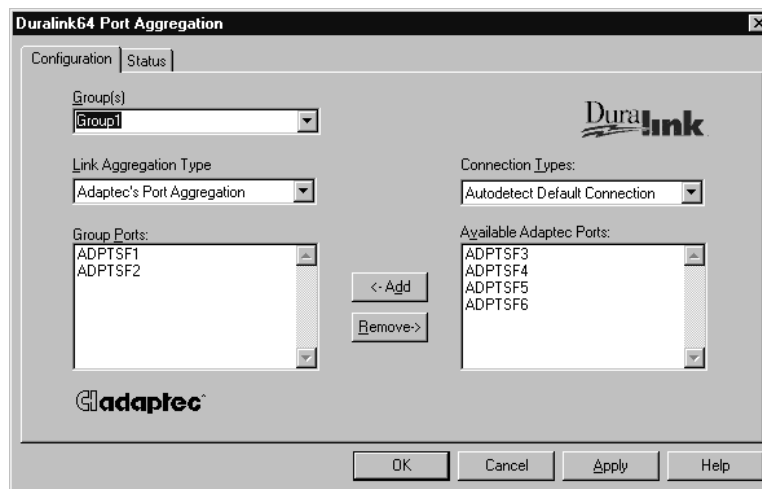

Figure 9-11. Modified groups in the Configuration tab.
- 1 In the Duralink64 Port Aggregation window, go to the Configuration tab, such as shown in Figure 9-11 on page 9-13.